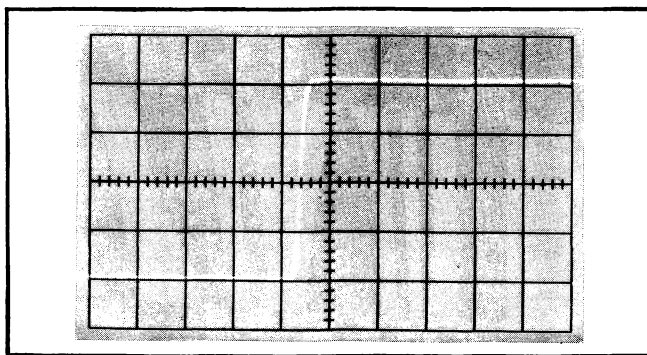

Fig. 5-2. High frequency response check, typical display.
c. Horizontally position the leading edge of the square wave into the viewing area. Reset triggering as necessary for correct display. See Fig. 5-2.